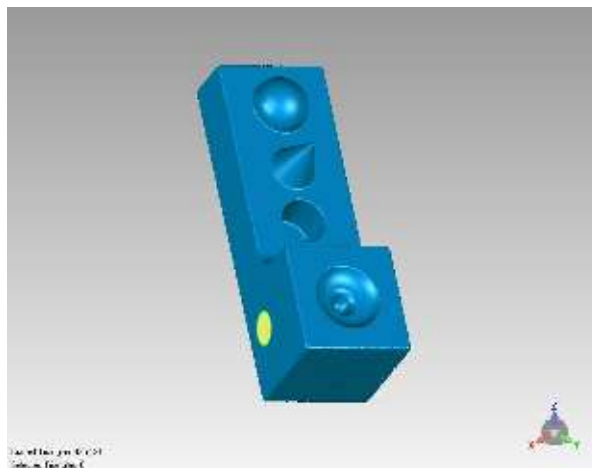

Figure 54
- Select **Fit Model to View** on the **Right-Side Toolbar** or press **CTRL+D**, see **Figure 54**.